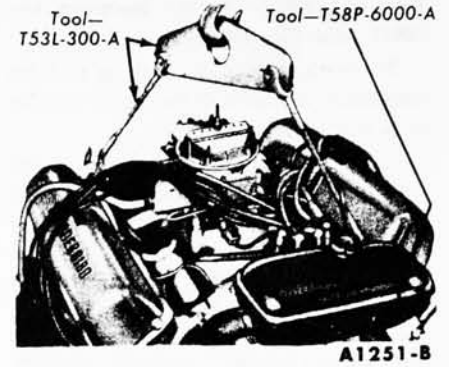

FIG. 24—Engine Lifting Brackets and Sling
20. Install the engine left lifting bracket on the front of the left cylinder head where the coil mounts. Install the engine right lifting bracket at the rear of the right cylinder head. Attach the engine lifting sling (Fig. 24).
2. Attach the engine lifting brackets and sling (Fig. 24). Remove the engine from the work stand.